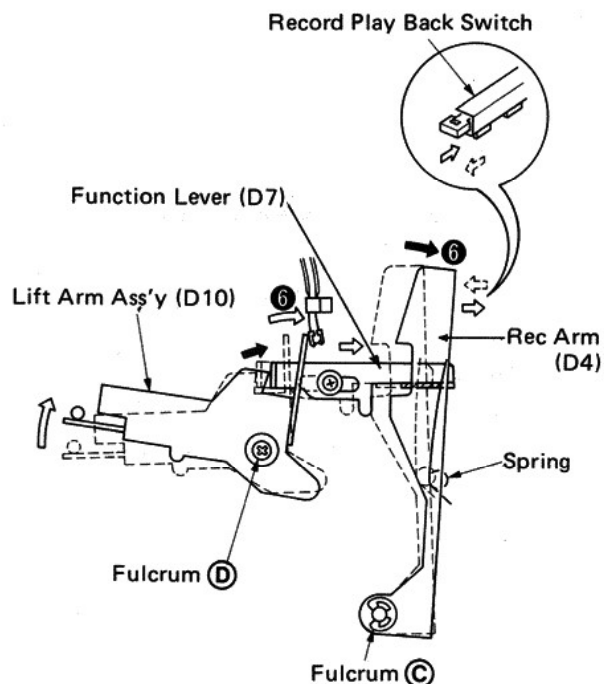

Fig. 31
- 5 The movement of the REC arm is used to switch over the RECORD/PLAYBACK switch into the REC mode. (Fig. 31)